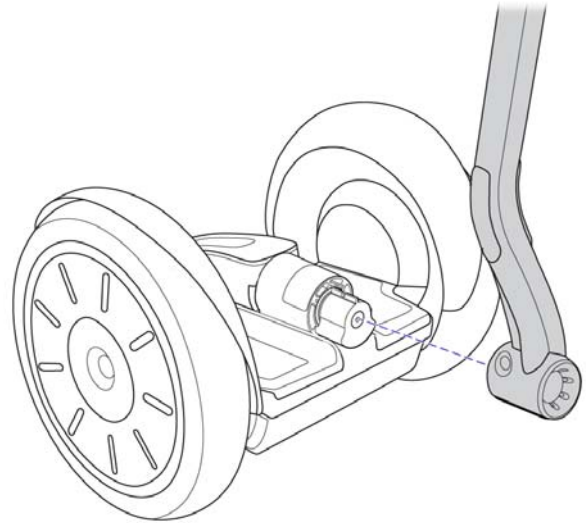

Figure 1-5: Remove LeanSteer Frame from Pivot Assembly
4. Slide LeanSteer frame away from pivot assembly, as shown in Figure 1-5. This should require minimal force.